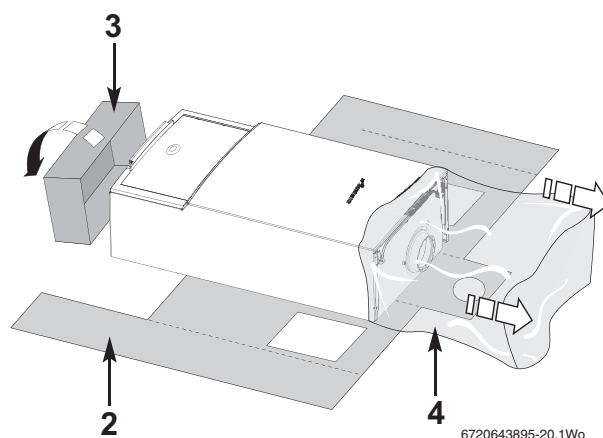

Fig. 25 Remove packaging
► Remove outer carton (1) and place safely away from the working area.
► With the outer packaging removed and the inner sleeve (2) still in place gently lay the boiler on its back.
► The boiler will lie at an angle to the floor to allow the boiler outer casing (5) to be removed.
► The inner sleeve (2) opens as shown in figure 25.
► Remove the protective wrapping (4).